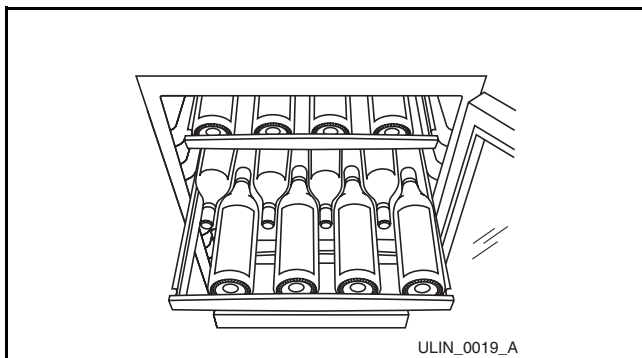

Figure 9. Stocking Remaining Racks
2. Repeat Step 1 to stock the next higher rack, and continue until all racks are filled (**Figure 9**).